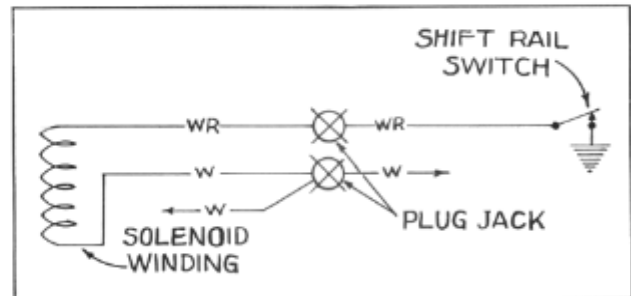

Figure 2
The abutment indicator is very simple in its testing since it is composed of a single circuit consisting of solenoid and a switch in series. This circuit is shown in Figure 2.
(WR) prong, see Figure 2. Connect one clip of test lamp (using No. 63 bulb or equivalent) to battery cable terminal and touch other clip to the (W) prong of jack. This places the 63 bulb in series with the abutment indicator solenoid winding and the bulb will burn with a red glow if the circuit is normal. No light indicates an open circuit and a bright light indicates a short circuit.